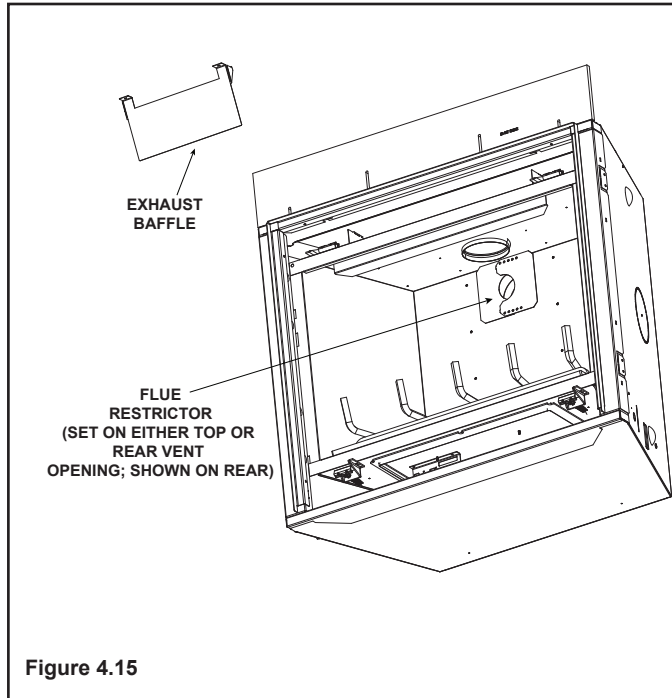

Figure 4.15
1. Remove exhaust baffle using a 1/4 inch nut driver by removing the two screws securing it in place. See Figure 4.15.